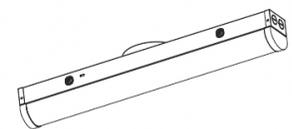

Fig. 6
6. Attach the housing cover back onto the fixture (Fig. 6).
7. The installation is now complete. If disassembly is required, push both buttons located on the opposite ends of the fixture (Fig. 6).